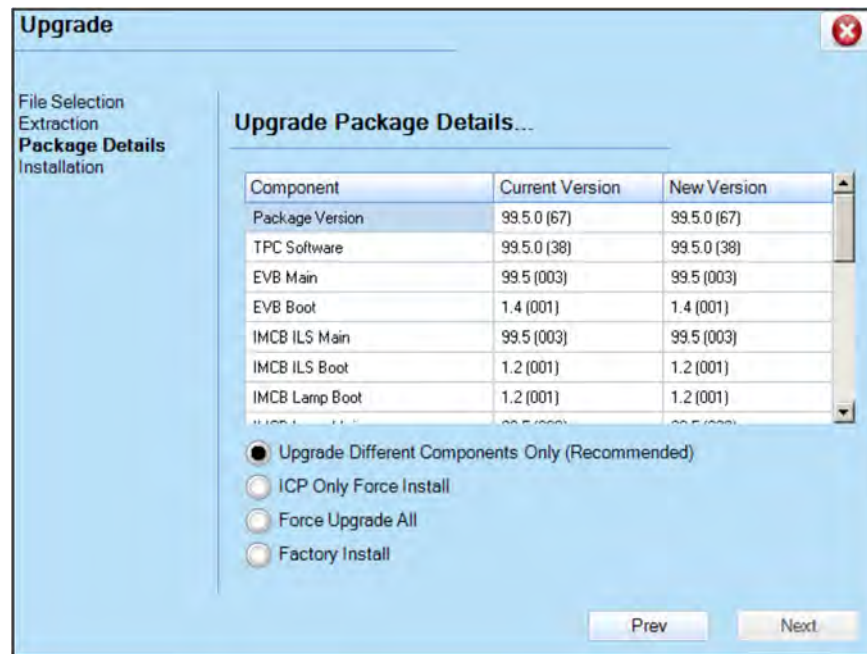

Figure 3-21 Upgrade: Package Details Window
4. The **Package Details** window shows the versions of all components installed in the projector. (Figure 3-21). Select the type of install to perform: **Upgrade Different Components Only**, **Force Upgrade All**, or **Factory Defaults Install** and click the **Next** button to advance to the **Installation** window.